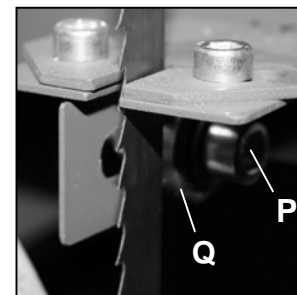

Figure 10
Loosen the socket screw (P) to adjust the bearing (Q) so that it is at least 1/32" away from the blade. (Figure 10)